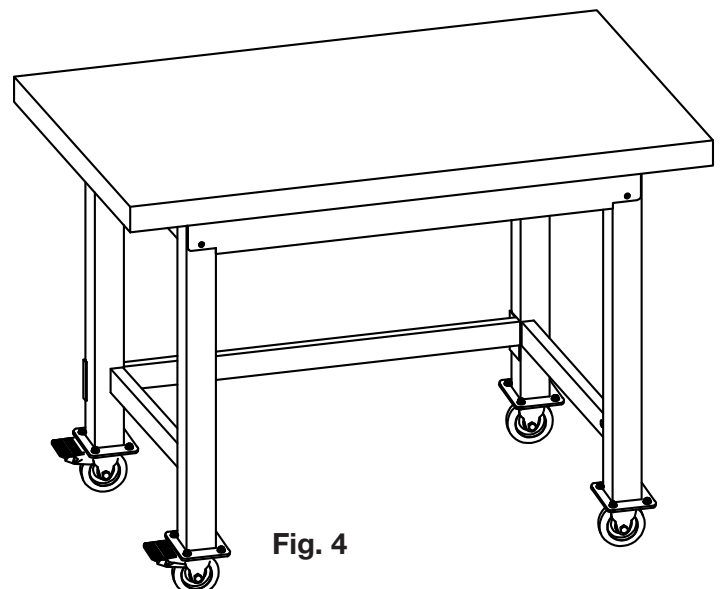

Fig. 4
Step 6: With the help of a second person turn the table back up the right way. As shown in (Fig. 4).